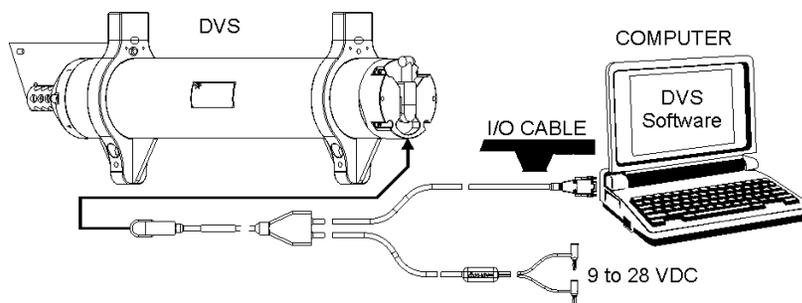
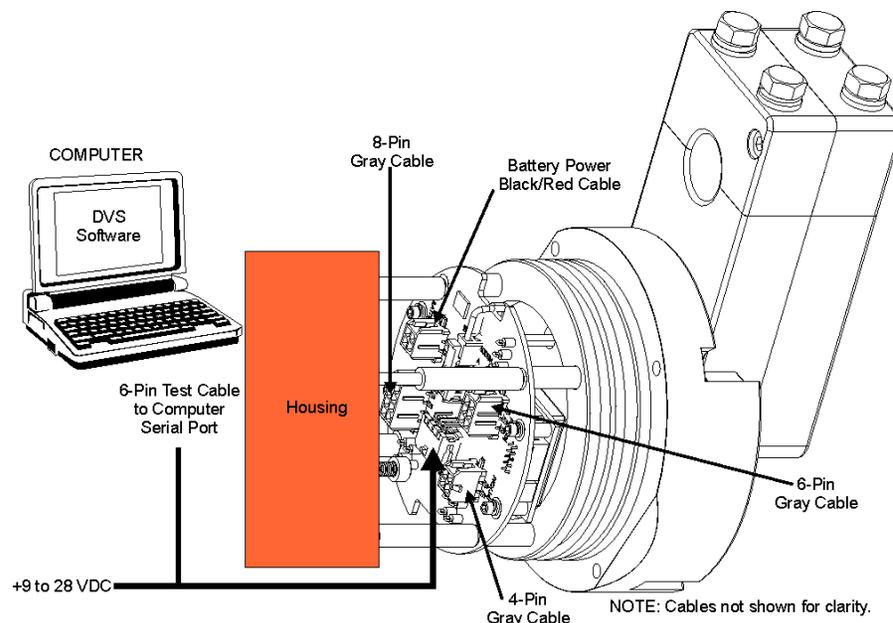

Figure 37. Test Setup – End-Cap with Connector
Figure 38. Test Setup – Inductive Modem End-Cap
- b. Connect the 6-pin test cable to the End-Cap Interface board (see Figure 38).
- a. Connect and power up the DVS unit as shown in Figure 37 or Figure 38.
- a. Connect and power up the DVS unit as shown in Figure 37 or Figure 38. Check that all cable connections are tight.